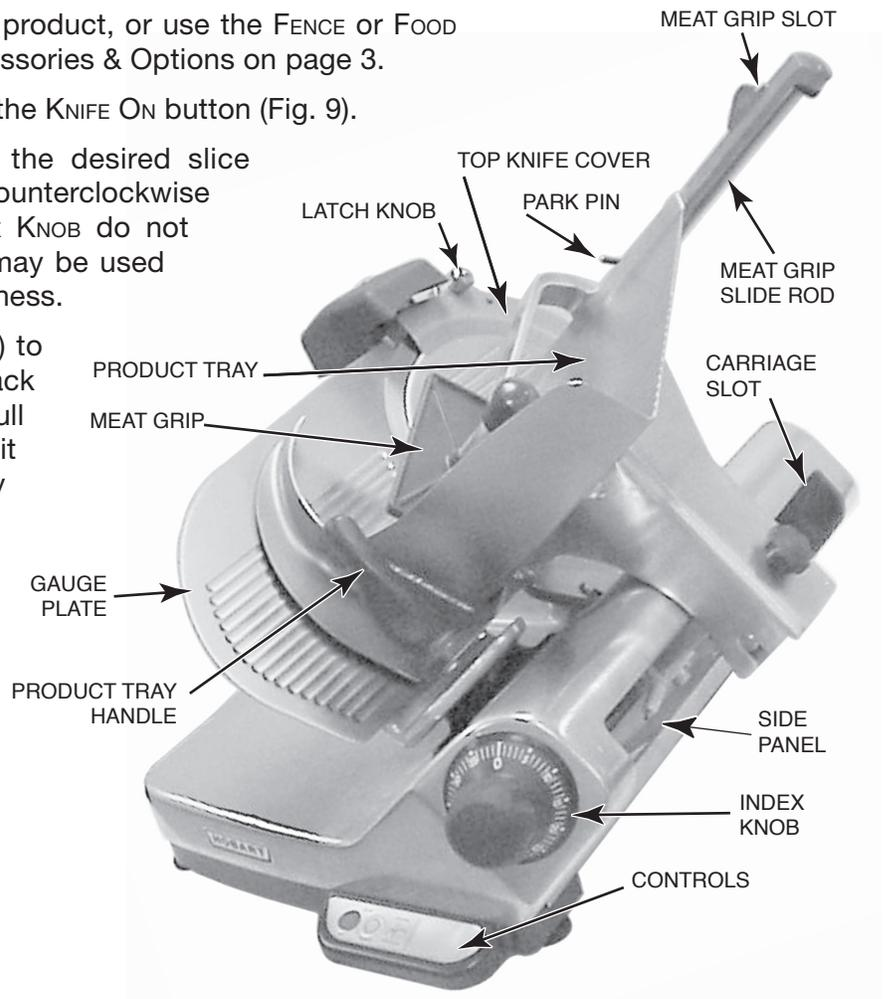
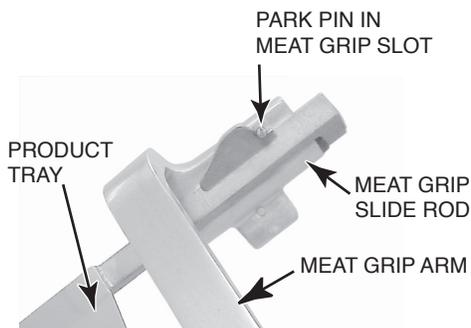

Fig. 7
Fig. 8
The TOP KNIFE COVER, and the plastic RING GUARD COVER underneath it, are shipped in place and secured with the LATCH KNOB on the TOP KNIFE COVER (Fig. 7).
To remove the TOP KNIFE COVER, turn the LATCH KNOB (Fig. 7) counterclockwise and lift the TOP KNIFE COVER off the three guide PINS (Figs. 5, 6). Remove the plastic RING GUARD COVER by lifting it from the guide PINS (Fig. 6).
Secure the RING GUARD COVER and TOP KNIFE COVER by turning the LATCH KNOB counterclockwise while lowering the TOP KNIFE COVER; then, release the LATCH KNOB and turn it clockwise until snug (Fig. 7).
- Close the GAUGE PLATE by turning the INDEX KNOB fully clockwise (Fig. 7).
- Pull the PRODUCT TRAY (Fig. 7) all the way toward you until it reaches its stop (this is the home position).
- Raise the MEAT GRIP to the top of the PRODUCT TRAY, and rest the PARK PIN in the MEAT GRIP SLOT (Fig. 8).
Adjust the GAUGE PLATE to obtain the desired slice thickness by turning the INDEX KNOB counterclockwise (Fig. 7). The numbers on the INDEX KNOB do not indicate actual measurements but may be used for reference to duplicate slice thickness.
Use the PRODUCT TRAY HANDLE (Fig. 7) to push and pull the PRODUCT TRAY back and forth to slice. When finished, pull the PRODUCT TRAY toward you until it stops. Turn the INDEX KNOB fully clockwise to close the GAUGE PLATE – this will turn the slicer off. You can also press the OFF button to stop the slicer.
Raise the MEAT GRIP to the top of the MEAT GRIP SLIDE ROD, and rest the PARK PIN in the MEAT GRIP SLOT (Fig. 8).
Use the PRODUCT TRAY HANDLE (Fig. 7) to push the PRODUCT TRAY back and forth to slice manually. When finished, pull the PRODUCT TRAY toward you until it stops. Close the GAUGE PLATE by turning the INDEX KNOB fully clockwise — this turns the slicer off (or you can press the OFF button). Raise the MEAT GRIP to the top of the MEAT GRIP SLIDE ROD, and rest the PARK PIN in the MEAT GRIP SLOT (Fig. 8).
Remove the TOP KNIFE COVER by turning the LATCH KNOB (Fig. 7) counterclockwise and lifting the TOP KNIFE COVER free of the three guide PINS (Figs. 13, 14).
Carefully reassemble the plastic RING GUARD COVER by putting it in position using the three guide PINS (Fig. 14). Carefully reassemble the TOP KNIFE COVER (Fig. 13) by putting it in position over the plastic RING GUARD COVER using the three guide PINS. Secure both RING GUARD COVER and TOP KNIFE COVER by turning the LATCH KNOB (Fig. 7) counterclockwise while lowering the TOP KNIFE COVER; then release the LATCH KNOB and turn it clockwise until snug.
- Place the TOP KNIFE COVER on top of the RING GUARD COVER, aligning with the three guide PINS (Fig.13). Secure the RING GUARD COVER and the TOP KNIFE COVER by turning the LATCH KNOB (Fig.7) counterclockwise while lowering the TOP KNIFE COVER; then, release the LATCH KNOB and turn it clockwise until snug.